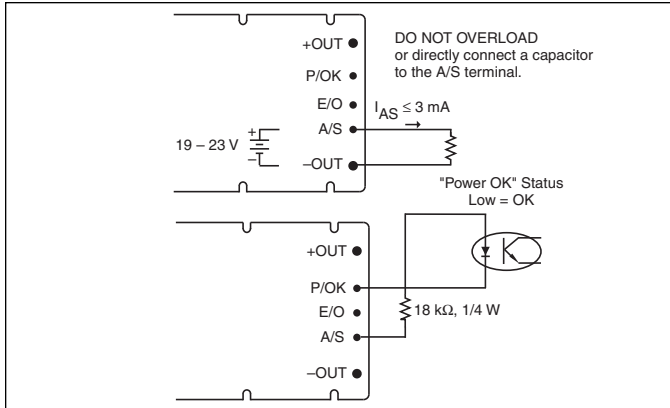

Figure 10-6 — Auxiliary Supply (A/S)
**Auxiliary Supply (A/S) Pin.** The HAM provides a low voltage non isolated output Auxiliary Supply (A/S) that may be used to power primary side control and monitoring circuitry. This output is 19 – 23 Vdc, referenced to -OUT, at 3 mA max. Do not overload or short this output as the HAM will fail. A typical use for A/S is to power an optical coupler that isolates the Power OK signal (Figure 10-6).